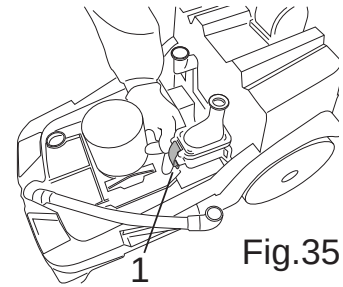

Fig.35
- Release the retaining lever (fig. 35, ref. 1) and remove the cover of the diverter valve.